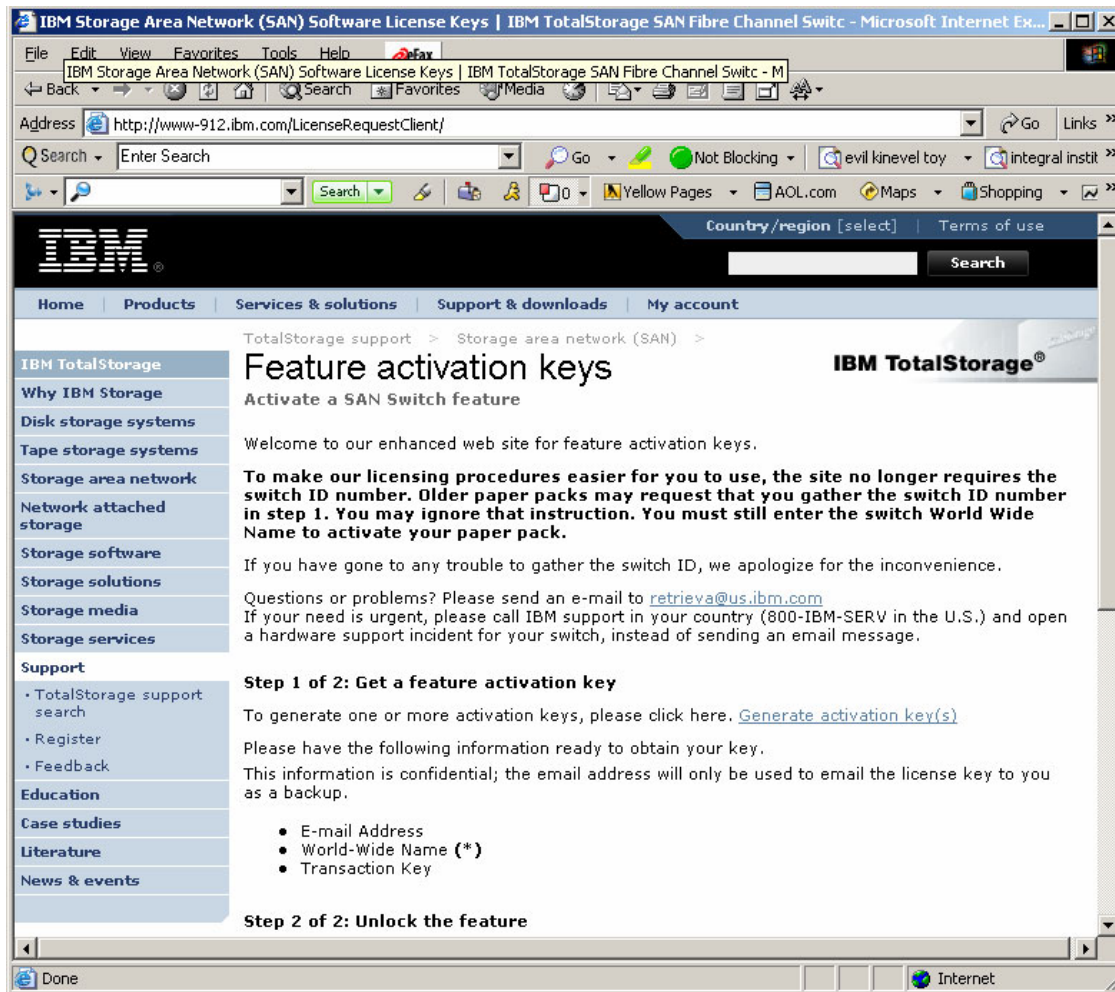

Figure 5-27 Brocade Feature Activation Web page
- b. The Web site (Figure 5-27) will provide you a feature activation key and send you an e-mail with the information. Write the feature activation key in the space provided on your Paper-Pak for future reference. Store the Paper-Pak in a secure location.